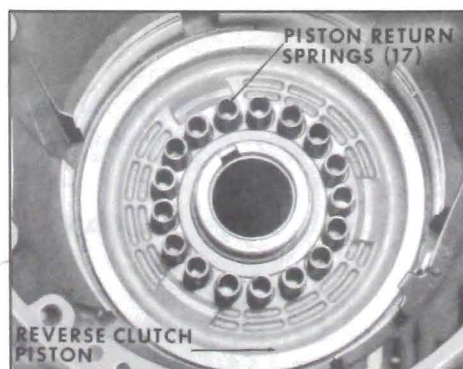

Figure 5-154
groove. Lift off piston return seat and remove seventeen (17) piston return springs. See Figure 5-154.